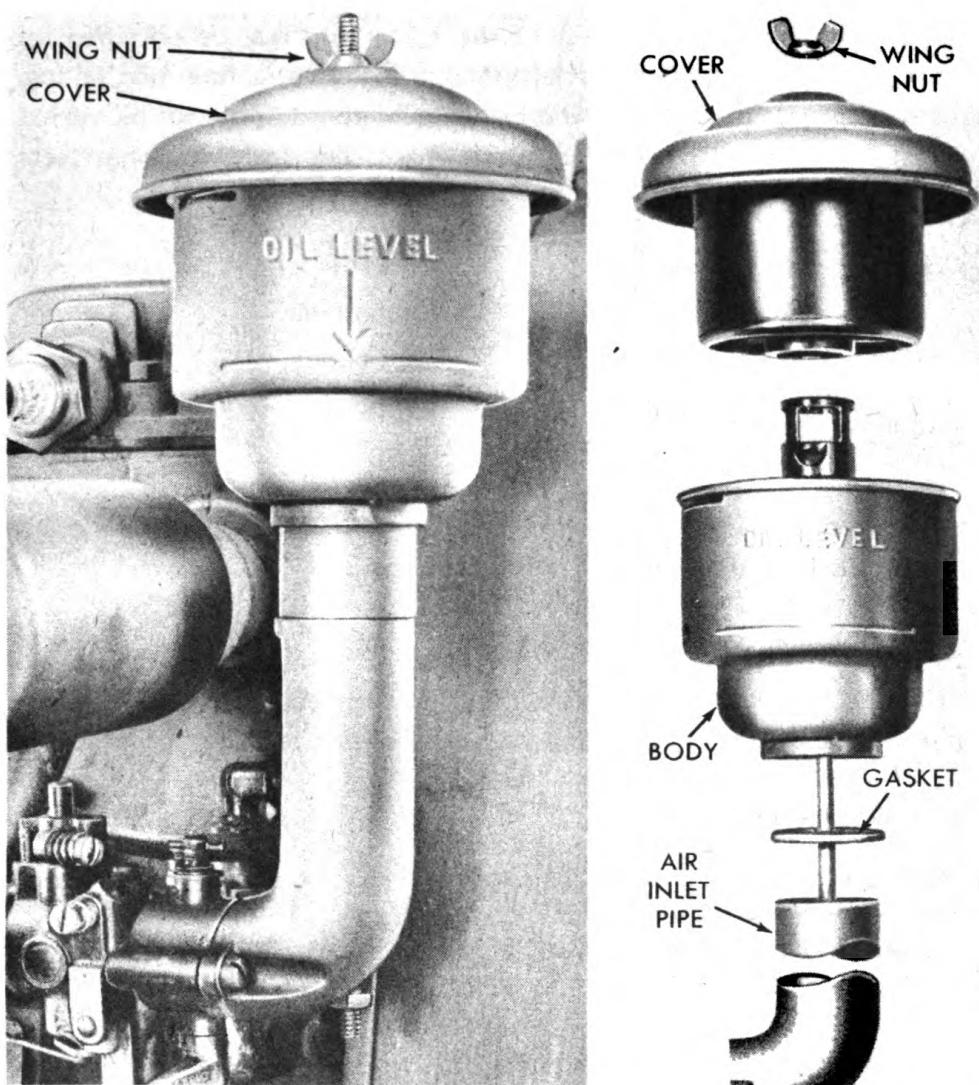

Figure 19—Carburetor Air Cleaner
c. Carburetor Air Cleaner. (See figure 19.)—Fill to level indicated on inside of cleaner, using engine oil (O.E.).
(1) Removal.
(2) Cleaning.